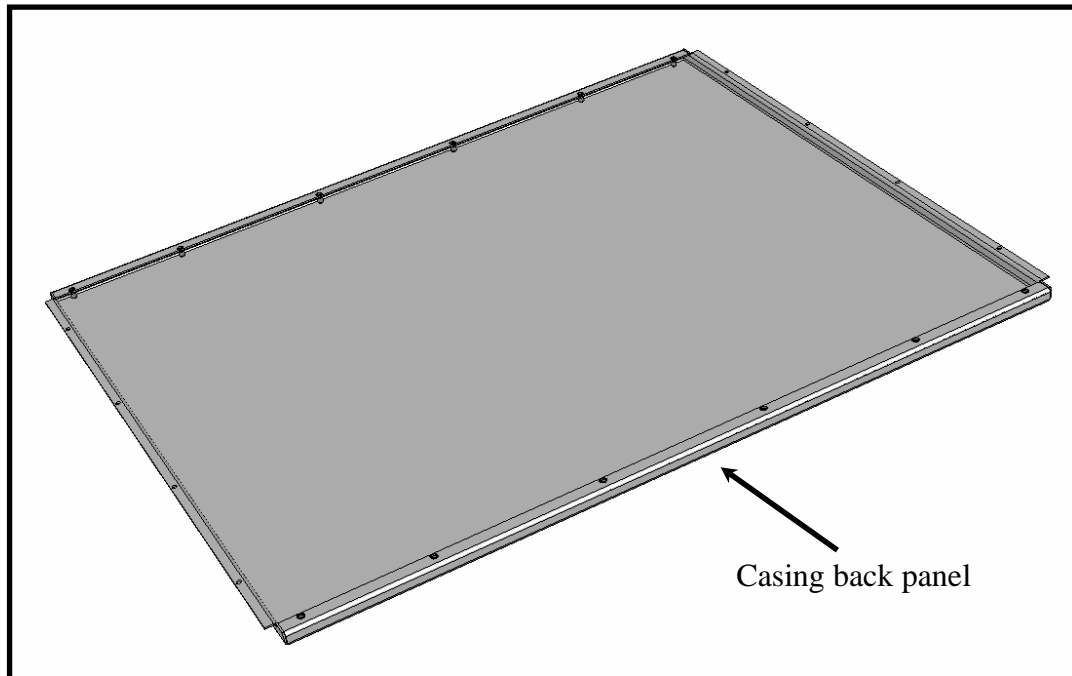

Figure 15 – Casing assembly – back panel
- a) Place casing back panel on a flat surface, being careful not to scratch paint. *See Figure 15.*